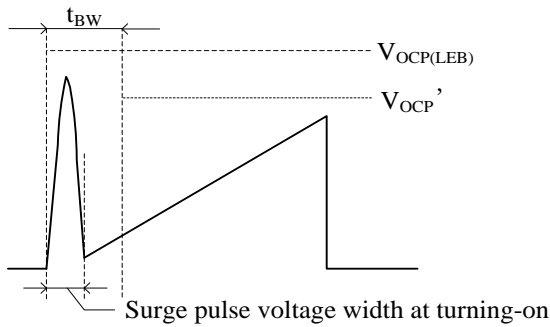
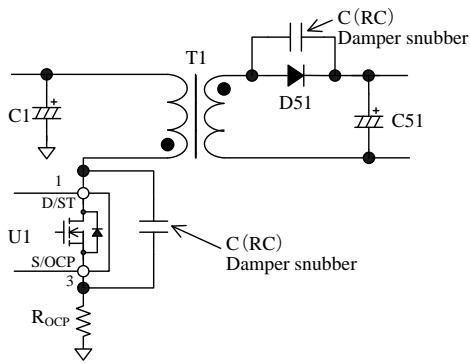

Figure 10-15. S/OCP Pin Voltage
Figure 10-16. Damper Snubber
During Leading Edge Blanking Time, the OCP threshold voltage becomes  $V_{OCP(LEB)} = 1.69$  V which is higher than the normal OCP threshold voltage as shown in Figure 10-15. Changing to this threshold voltage prevents the IC from responding to the surge voltage in turning-on the power MOSFET. This function operates as protection at the condition such as output windings shorted or unusual withstand voltage of secondary-side rectifier diodes.
When the power MOSFET turns on, the surge voltage width of the S/OCP pin should be less than  $t_{BW}$ , as shown in Figure 10-15. In order to prevent surge voltage, pay extra attention to  $R_{OCP}$  trace layout (see Section 11.2). In addition, if a C (RC) damper snubber of Figure 10-16 is used, reduce the capacitor value of damper snubber.